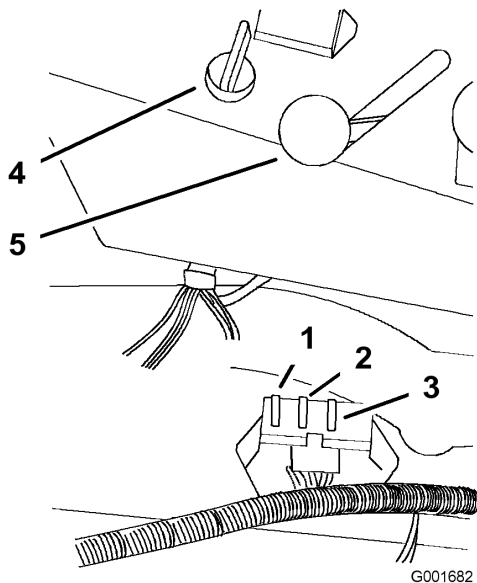

Figure 41
- Raise the seat to gain access to the fuse holder (Figure 41).
- Install a new fuse (Figure 41).